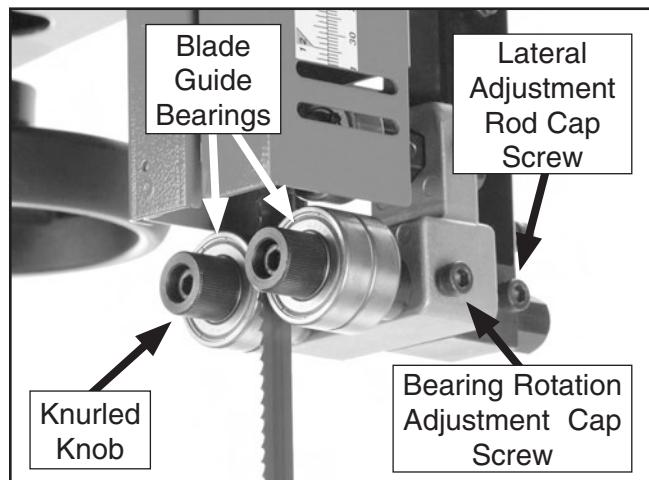

Figure 32. Blade guide controls.
- Familiarize yourself with the blade guide controls shown in **Figure 32**.